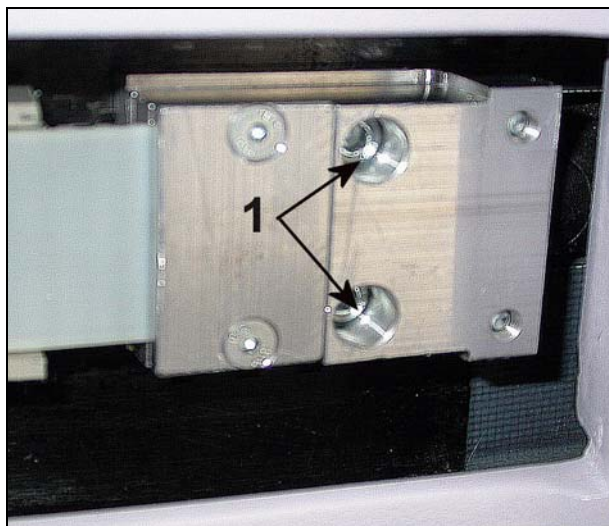

Fig. 9
- Release the two tube-side screws (1/ Fig. 9), and pull the C-arm cable out of the C-arm.